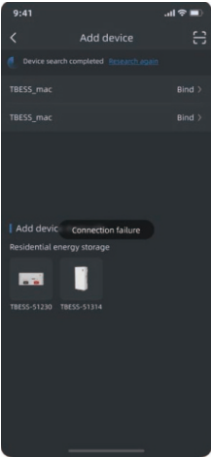

Figure 3
- 3)Figure 3: Restart the device and add it again.